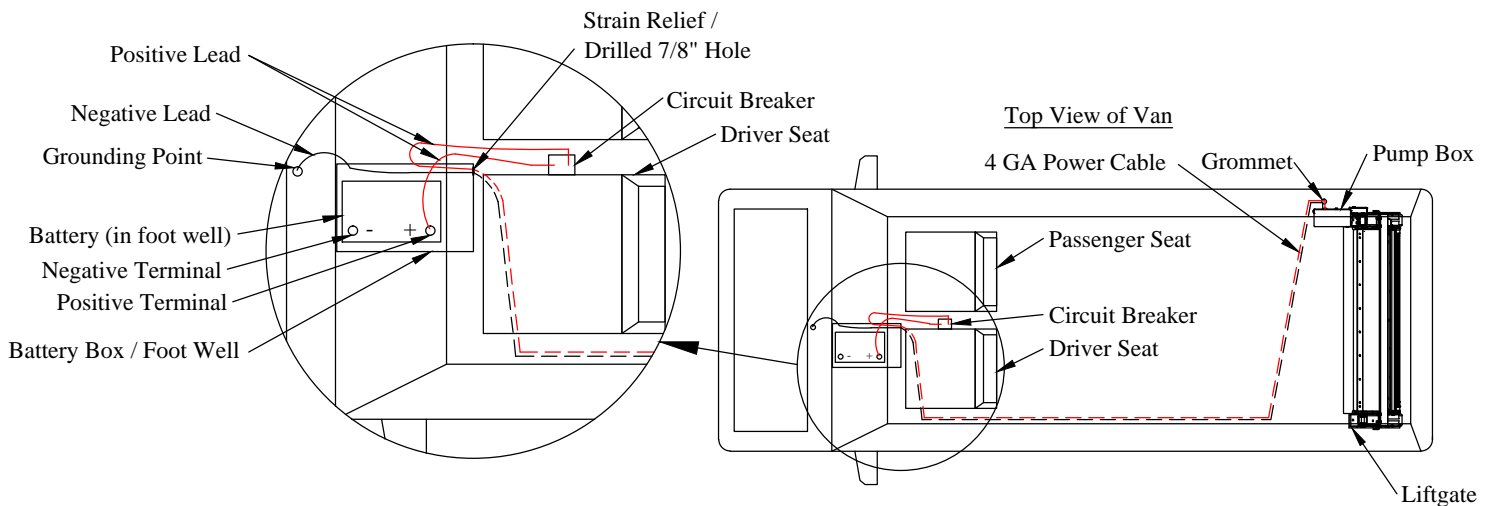

Figure 15: Electrical routing.
1. **Install** the circuit breaker on the side of the driver seat pedestal, near the battery, leaving enough room for the power cables to be installed and so that the circuit breaker can easily be reset (Figure 15).
5. **Route** the power cables under the vehicle from the liftgate, along the frame, to a location near the foot well (Figure 15).